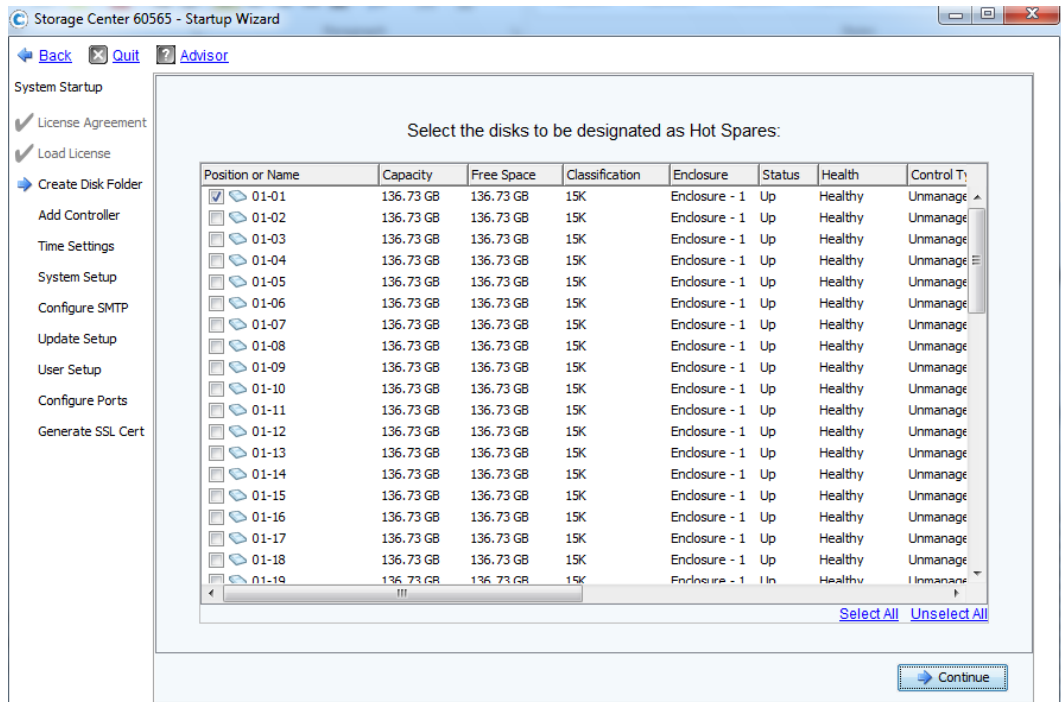

Figure 18. Select a spare disk
2. Under **Select the disks to be designated as Hot Spares**, select one spare disk per enclosure, and then click **Continue**, as shown in Figure 18.